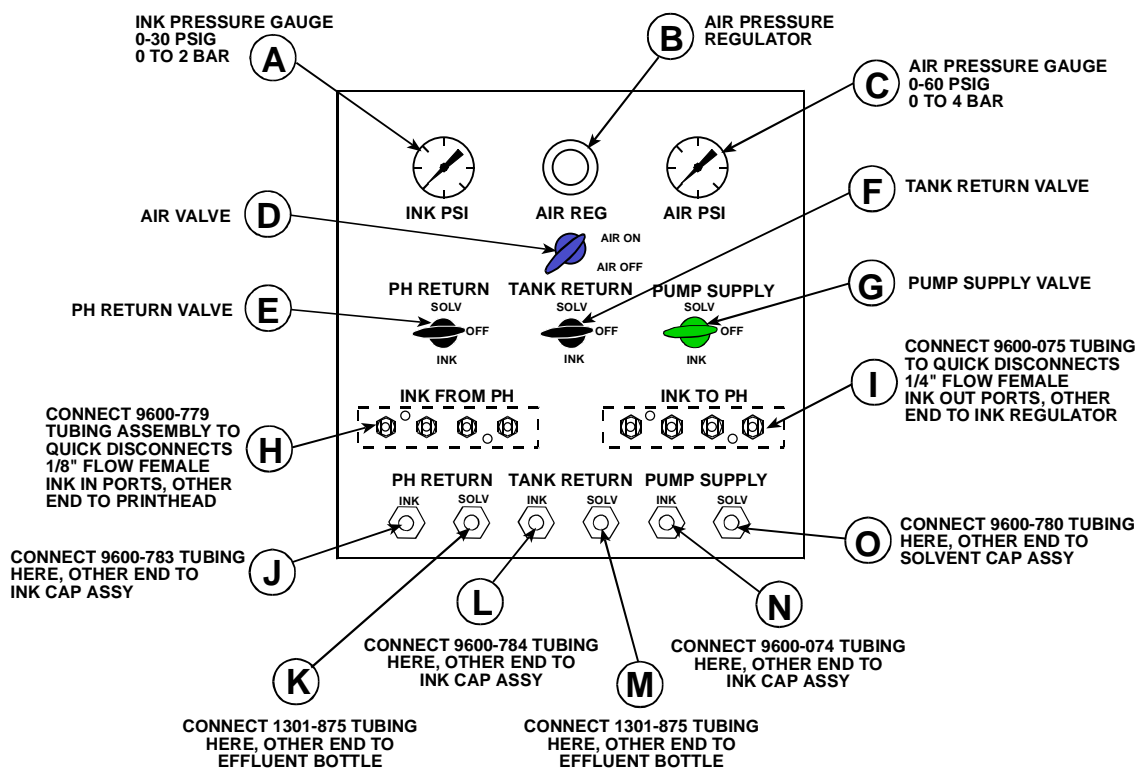

Figure 2 IDS/PI-400 Front Panel
1. Turn the blue AIR VALVE **(D)** (*Fig. 2*) to OFF.